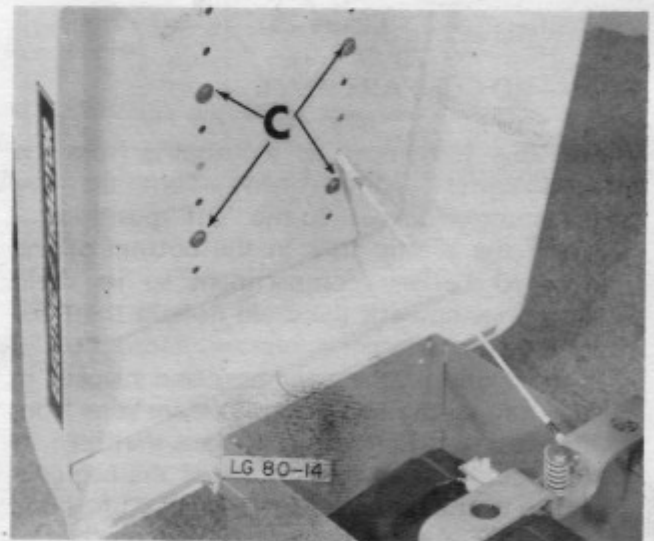

Figure 24
Install seat to seat mounting Fig. 24 using four (4) 5/16 x 1" machine bolts and flatwashers at "C".